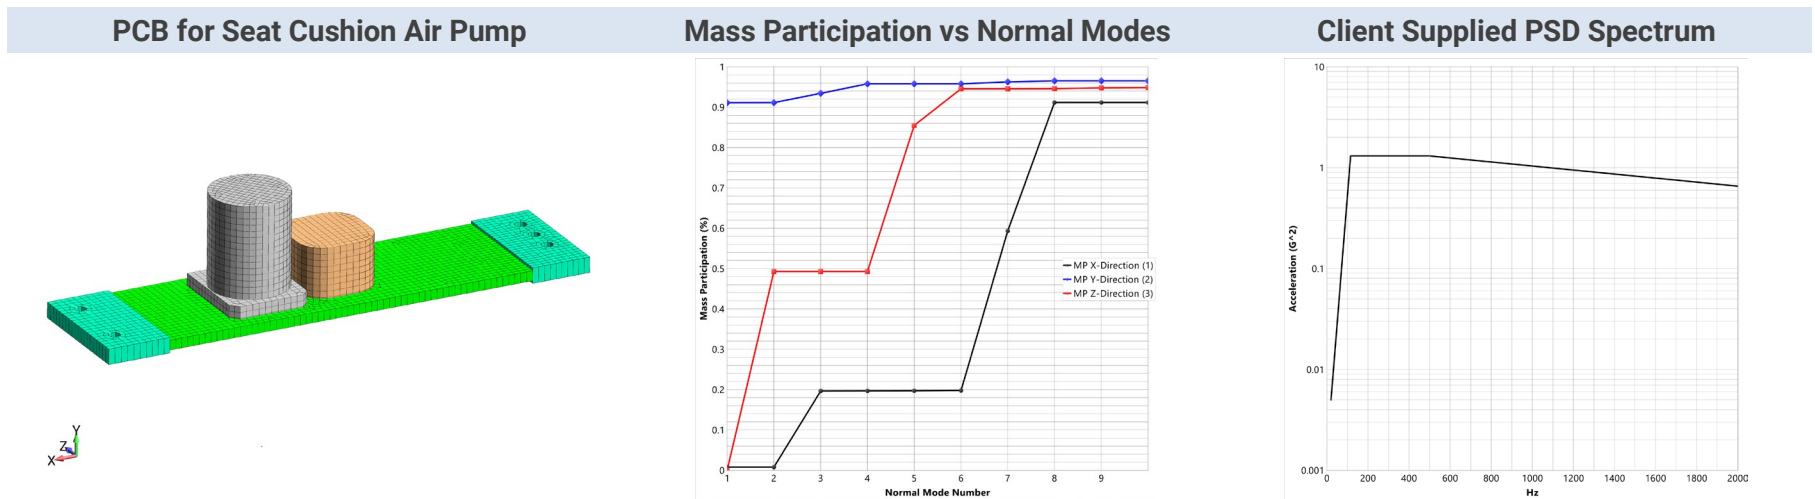
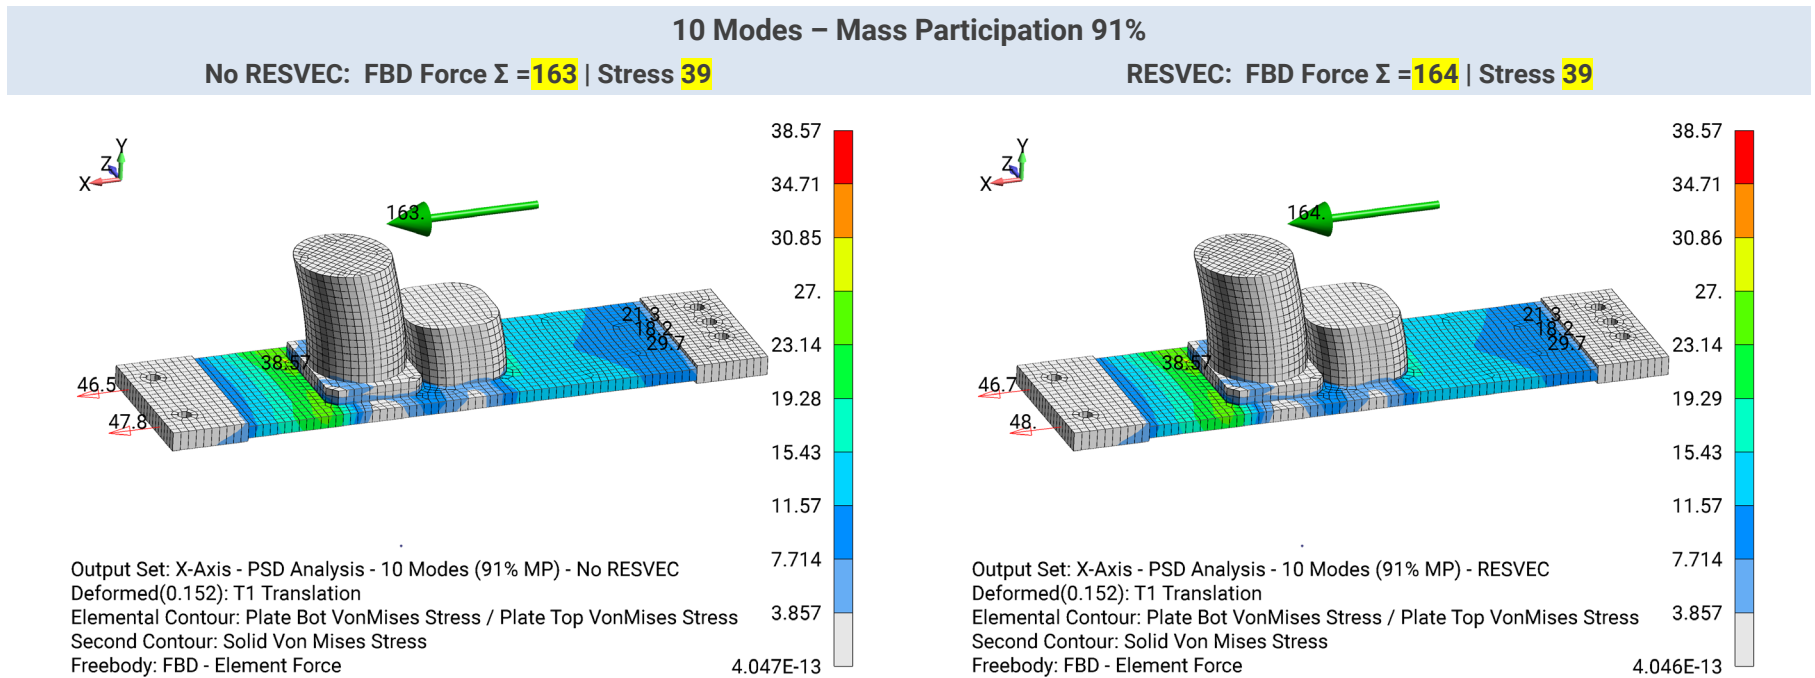

Figure 3: PSD analysis of automotive PCB for seat cushion air pump
Figure 6: Introduction to PSD results (FBD Force Summation at Bolts and Elements Stress) with RESVEC and No RESVEC in X-direction
Figure 3 shows our little PSD model that has plates, solids, beams and RBE2's. The quick takeaway is that in the vertical direction (Y-axis), the first mode captures more than 90% of the mass while along the length of the structure (X-axis), the pickup of mass participation (MP) is pitiful with the first two modes only capturing 0.8% (or 0.008 MP) and even after six modes we only have 20%. It is not until around 8 modes that we crest above 90%.
To make our example the “worst case”, we are going to focus on the X-direction where the model struggles to get a decent mass participation (see Figure 3). Figure 6 shows the model with a Free Body Diagram (FBD) showing the individual bolt’s *rms* reaction forces in the X-direction and also its summation. Along with the FBD, I have contoured the element’s *rms* stress results. Although it makes for a bit of a complicated image it provides a “one shot and done” comparison. When you look at Figure 6, one may think, “well, Residual Vectors are useless and add no value”. That is correct when one captures the majority of the mass of the structure (i.e., 91% at 10 Modes) you are home free. But given that the cost of Residual Vectors is almost free, it’s the default.